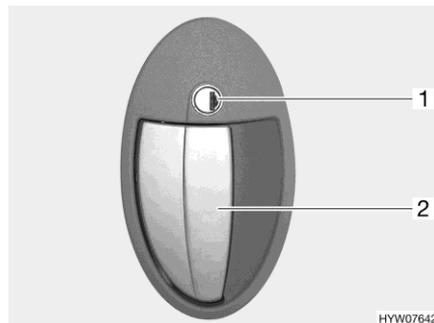

Fig. 50 Door lock (conversion door, outside)
- Insert the key in the locking cylinder (Fig. 50,1) and turn it in a clockwise direction until the door lock is unlatched.
- Pull on the door handle (Fig. 50,2). The door is open.
- Insert the key in the locking cylinder (Fig. 50,1) and turn it in an anti-clockwise direction until the door lock is engaged.